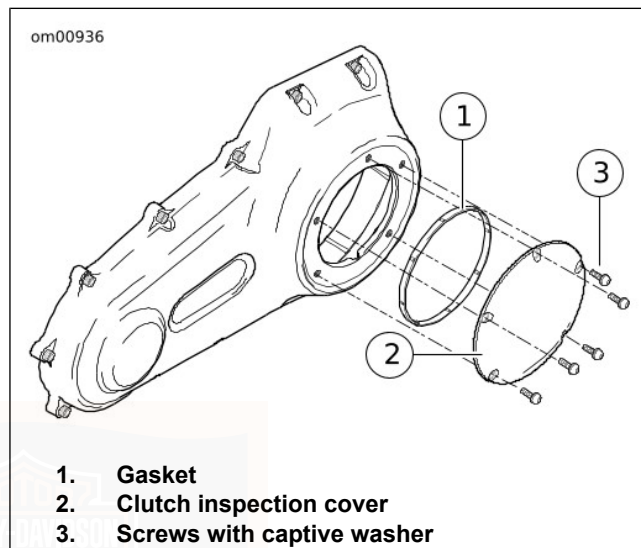

Figure 33. Clutch Cover
2. See Figure 33. Using a T27 TORX drive head, remove five screws (3) (with captive washers) to free clutch inspection cover (2) from primary chaincase cover.